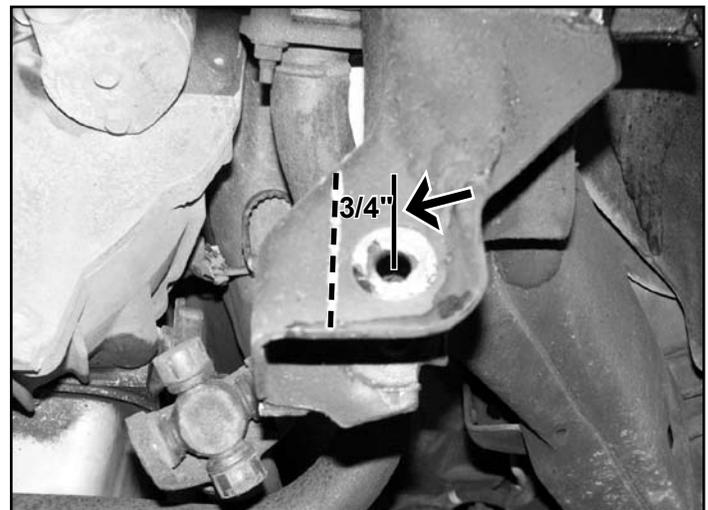

FIG. 13 - Front View
36. Cut off the inner portion of the driver's side lower rear control arm pocket by making vertical and horizontal cuts 3/4" inward from the control arm mount holes. Dress and paint the affected area. (Fig. 13, 14)